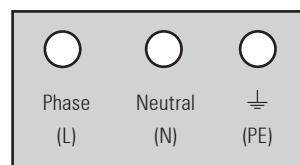

Fig. 19. Output terminal (C4)
4. Some model depending on the power, has output terminals (C4) to feed the loads. To have access to them it is better to remove the screws that fix the terminal cover, take it away and next make the wiring connections by respecting the order of the phase (L), neutral (N) and protective earth (PE) stated in the labelling and figure 19. Finally put the terminal cover back by fixing it with the respective screws.